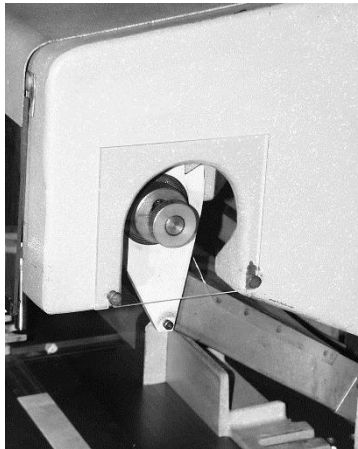

Figure 4
1. Locate the plastic cover on the right hand side of the machine. Loosen the front knob and rotate cover back to expose lock knob. (See Figure 4)
WARNING: DO NOT use this machine without having the guard shown in fig. 4 is in place.